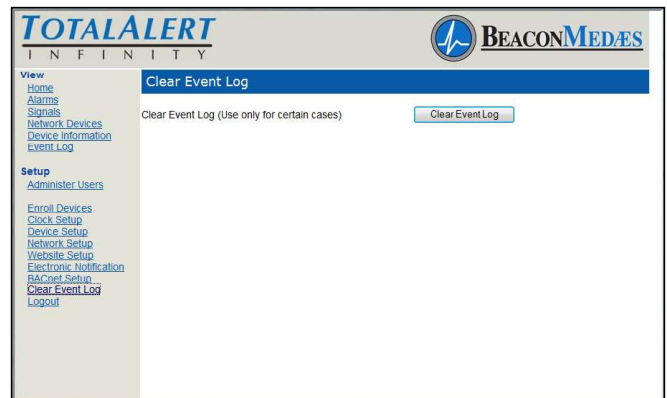

Figure 202: Clear Event Log
1. Click Clear Event Log to access the Clear Event Log page (Figure 202).